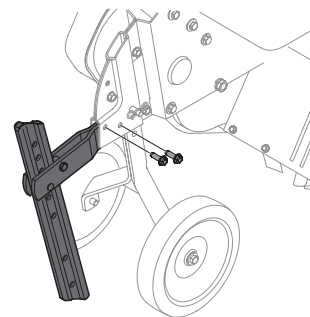

Figure 4
2. Remove the two screws from the bracket in the chain case. See Figure 4.
3. Insert the horizontal bracket into the chain case brackets and secure the depth stake assembly in place with the screws removed in Step 2. See Figure 4.